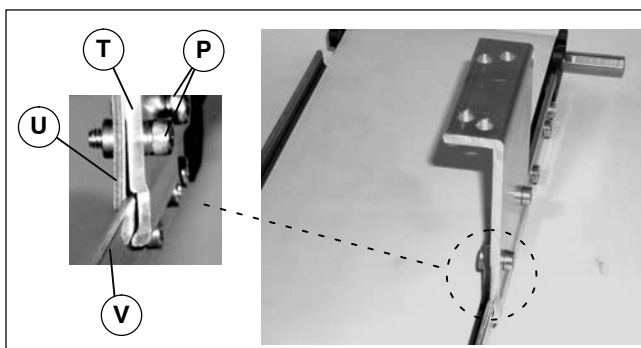

Figure 9
3. Attach stand mounting bracket (T of Figure 9) to bottom of conveyor (V). Snug-up screws (P).